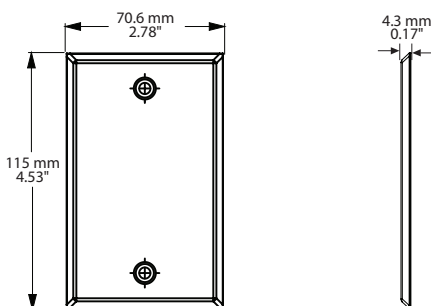

Figure 1
- The plate sensor is a 2 wire hook up and is not polarity sensitive. See Figure 1.